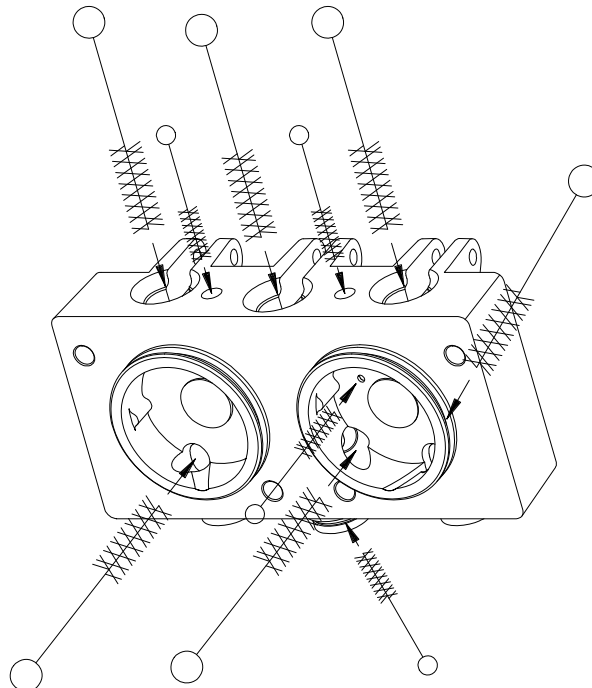

Figure 6-6 Clean head ports and openings with brush.
- b. The head plunger openings, center plunger ports, O-ring grooves, dispense nozzle mounting rings, and mix ports, as shown in figure 6-6.